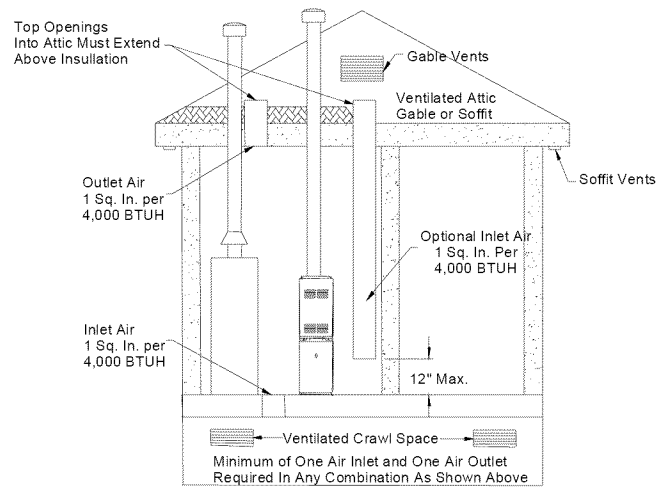
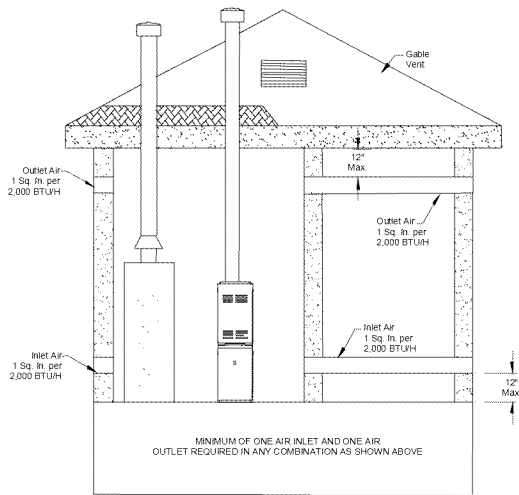

Figure 1
FIGURE 3
2. Using a 3/32 inch hex wrench, loosen outlet pressure tap screw (located in outlet pressure boss, see fig. 1) one turn (screw need not be removed).
3. Attach a 5/16 inch hose and manometer to the outlet pressure boss of the valve (see fig. 1). Hose should overlap boss 3/8 inch.
3. Using a 3/32 inch hex wrench, loosen inlet pressure tap screw (located in inlet pressure boss, see fig. 3) one turn (screw need not be removed).
4. Attach a 5/16 inch hose and manometer to the inlet pressure boss of the valve (see fig. 3). Hose should overlap boss 3/8 inch.
A leading cause of unsatisfactory or dangerous performance is due to inadequate provisions for combustion and ventilation air. The following (Figure 1 through Figure 3) outline the minimum combustion / ventilation air this furnace and any additional gas fired equipment require when installed in a confined area. It is important that provisions be made for adequate combustion and ventilation air (in accordance with section 5.3, Air for Combustion and Ventilation, of the National Fuel Gas Code, ANSI Z223.1, or applicable local building codes). In Canada, use the current CAN/CGA-B149.1 & 2 Gas Installation Codes.
2. As outlined in the Figures 1, 2, and 3, the size of the combustion and ventilation air ducts depend upon where the source of the air is located. It is important to note that all sizes are to be regarded as "free area" and any obstruction such as an inlet or outlet grille must be made up for in the size of the openings. No screen may be used at the outlet or inlet of these ducts that are smaller than ¼" mesh. Any grille used must be non-moveable fixed grilles. The user should be informed not to block or in any manner restrict these openings.
Figure 1 – demonstrates combustion / ventilation air origination from a ventilated attic or crawl space. This type of installation requires a minimum of 1 square inch per 4000
BTUH of total gas burning equipment contained in the enclosure. For acceptable intake and exhaust duct location, please refer to Figure 1.
Figure 3 – Shows the combustion/ ventilation air supplied to the mechanical room from the outside via horizontal ducts. They are to be a minimum of 1 square inch per 2000 BTUH of total gas burning equipment.
BTUH per square inch requirement – 1000, 2000 or 4000 (See Figure 1 through 3) = _____
- When the installation is in an unconfined space in buildings of conventional frame, brick, or stone construction, normal infiltration found in these types of construction should be adequate to provide the necessary air for combustion and ventilation. If the unconfined space is within a building of unusually tight construction, provisions for combustion and outlet air must be provided as shown in Figure 3.
Listed gas-venting systems using listed vent caps 12" and smaller may terminate according to the VENT TERMINATION TABLE. (See figure 1)
THE VENT TERMINATION SHOULD NOT BE LESS THAN 8 FT. FROM A VERTICAL WALL **FIGURE 1 - VENT CAPS 12" OR SMALLER**